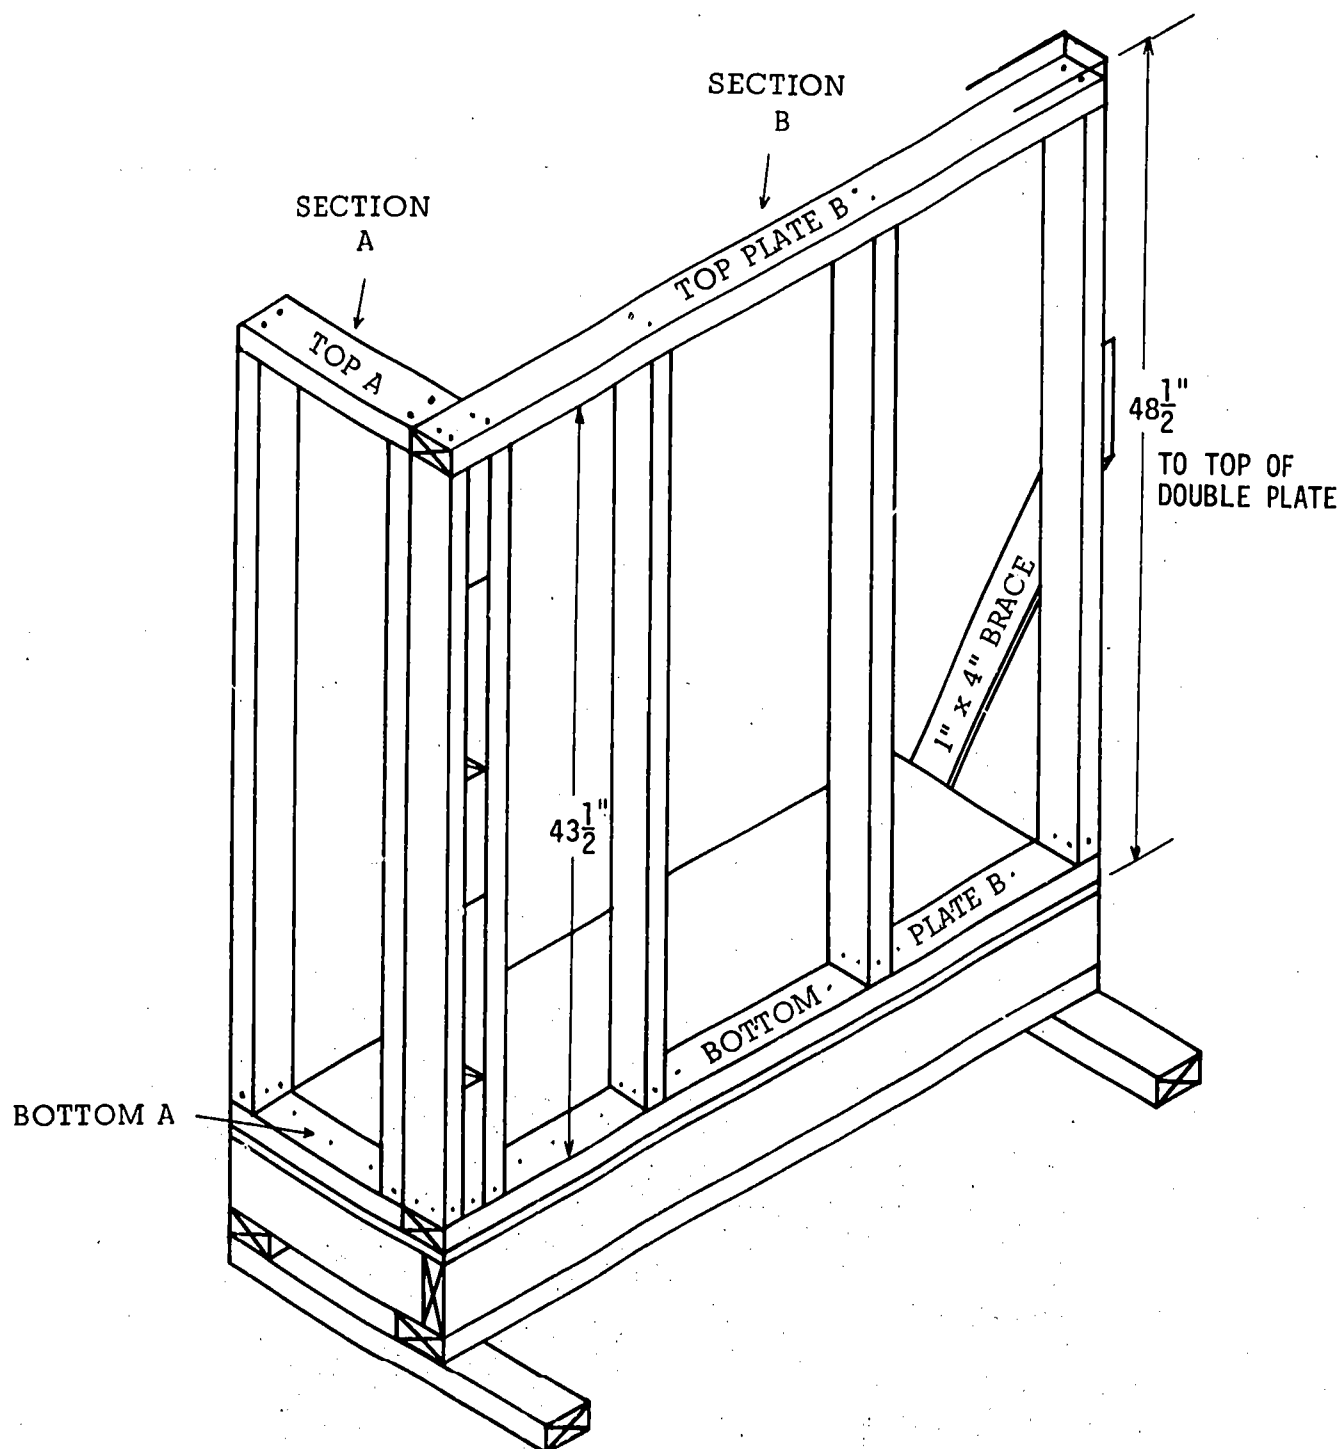

Fig. 47D-2. Detail of Framed Wall Assembly
10. Construct the corner of Section B by placing three 2" x 4" blocks between two studs and nailing them together. See Fig. 47D-4.
- studs against a wall. Nail the top plates to the studs as shown in Fig. 47D-5.